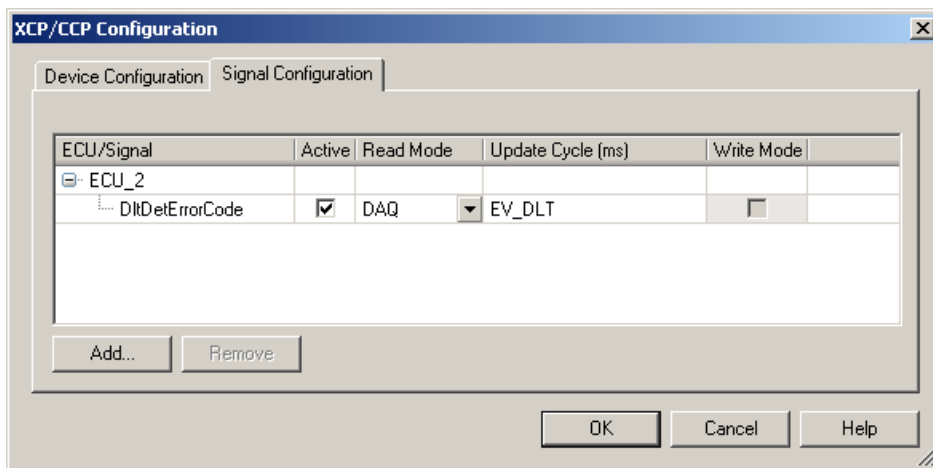

Figure 3-3 Selection of the XCP measurement object for DLT logging of DET reports
- > DLT Reporting of DET Errors: Select the “Signal Configuration” tab and add the signal Dlt_DetErrorCode to your measurement list. Select DLT_DET as XCP event channel for measurement as shown in Figure 3-3.